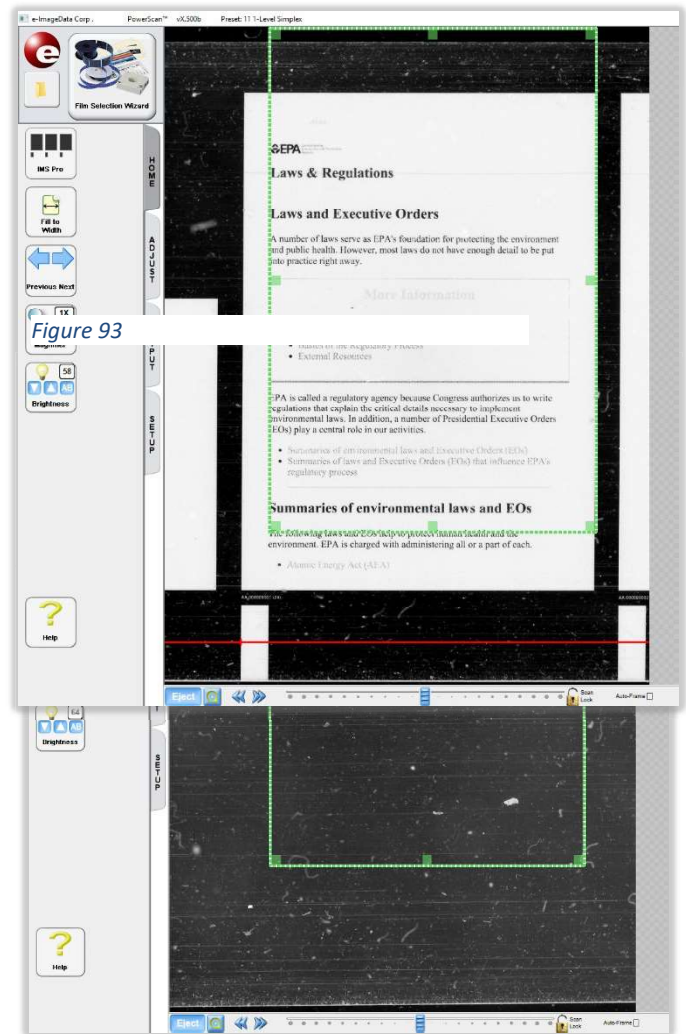

Figure 93
- e. When clicking on the *IMS Pro* button for the first time, the *Calibrate Straightness* window appears. *Figure 93*